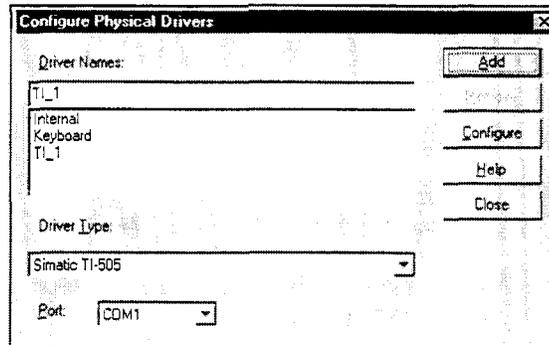

Figure 5. Configure Physical Drivers Dialog Box
2. Select the Drivers command on the Configure menu in the Application Navigator. The Configure Physical Drivers dialog box opens, as shown in Figure 5.
The Simatic TI-505 Configuration dialog box opens, as shown in Figure 5.